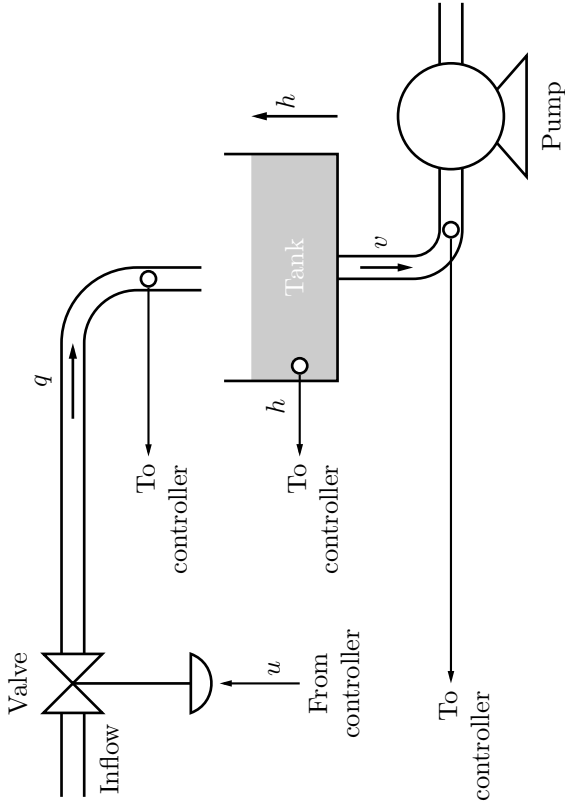

Figure 9.8a
9.8 In Figure 9.8a a level control system for a tank is shown. The objective is to keep the level at a desired value. Let  $u$ ,  $h$ ,  $q$ , and  $v$  denote small variations around the desired working point. The inflow,  $q$ , to the tank is determined by the valve,  $u$ , calculated by the controller. The outflow  $v$  is determined by the pump and deviations from zero is considered as process noise. The valve has some dynamics, which is modeled with the transfer function